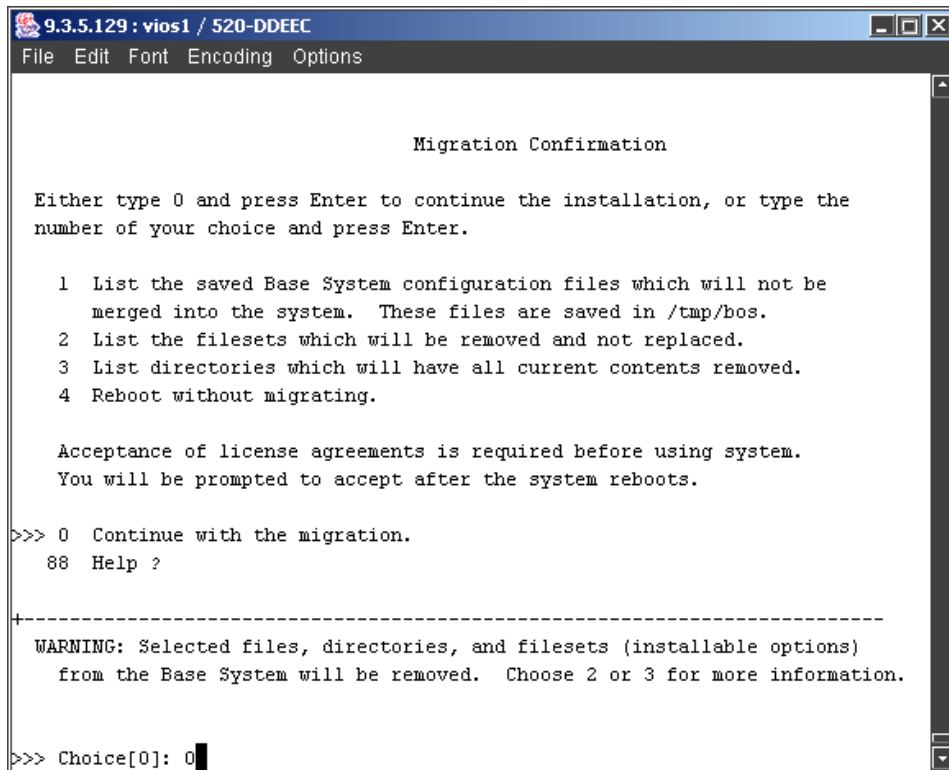

Figure 5-6 Migration Confirmation
20. The migration will start and then prompt you for a final confirmation as shown in Figure 5-6. At this point you can still stop the migration and boot up your existing Virtual I/O Server Version 1.x environment.